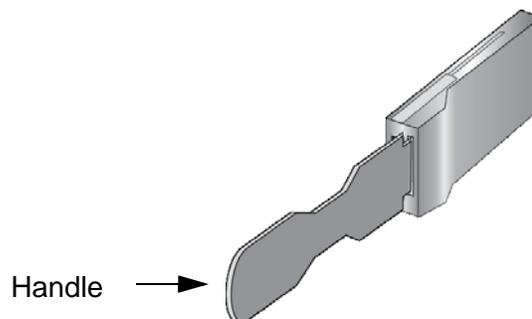

Figure 102. Handle on 100Gbps Transceivers for the XEM2-1CQ Line Card
- ❑ 100Gbps transceivers for the XEM2-1CQ line card have handles. Use the handles when installing or removing transceivers. An example is shown in Figure 102.